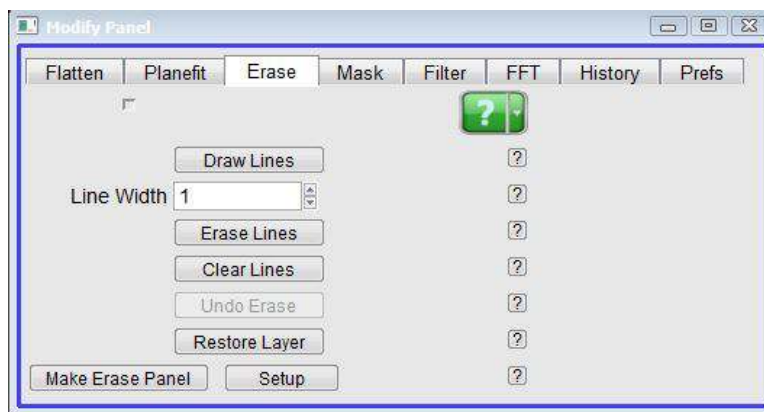

Figure 1.7.: Erase controls.
7. If necessary increase the *Line Width* value (Figure 1.7 on page 24) to cover more lines.